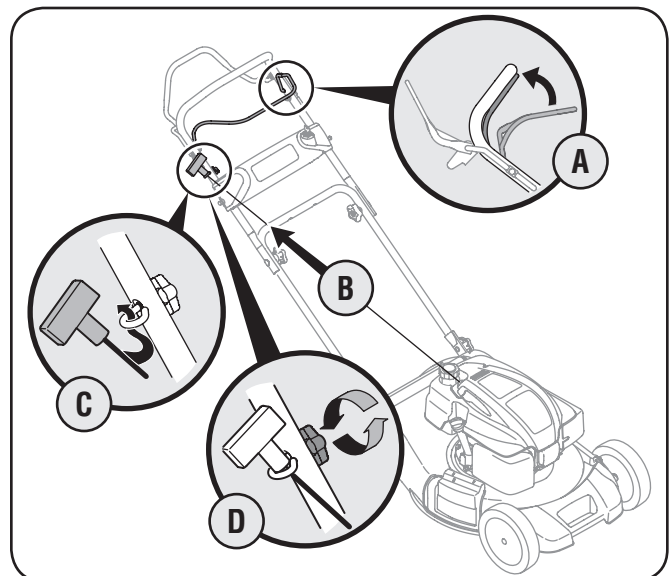

Figure 3-3
- The rope guide is attached to the right side of the upper handle. Loosen the wing nut which secures it to the upper handle. Refer to Fig. 3-3.